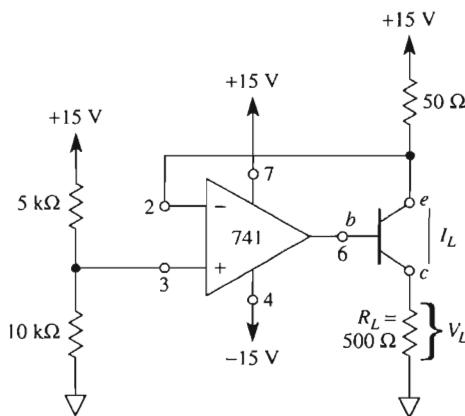

FIGURE P5-7
- 5-7. For the constant-current source shown in Fig. P5-7, (a) draw the current direction, the emitter arrow, and state if the transistor is *npn* or *pnp*; (b) find I ; (c) find V_L .